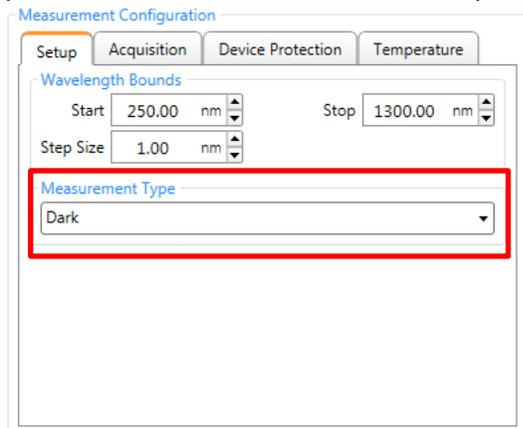

Figure 35: Selecting measurement type for REFL tab in SciPV:QE.
12. In the “Measurement Type” session select *Standard* from the drop-down menu, see Figure 35 .
6. In the “Measurement Type” session select *Sample* from the drop-down menu, see Figure 35.